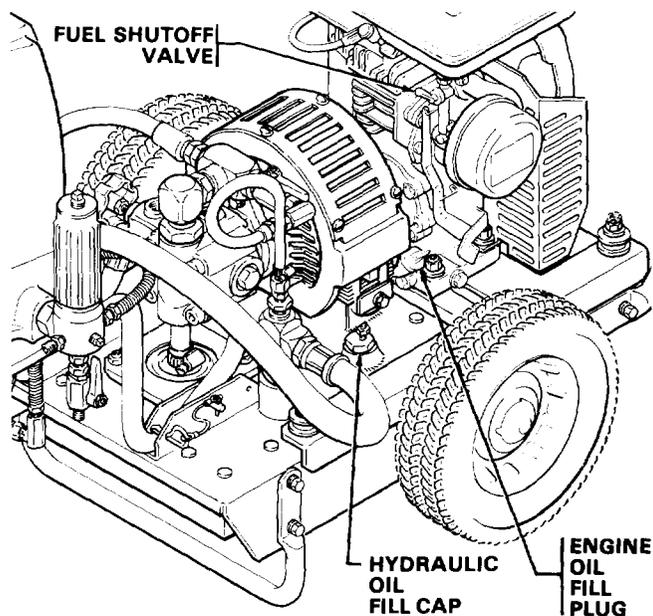

Fig 3
4. **Fill the Packing Nut/Wet Cup (141)** 1/4 full with Graco Throat Seal Liquid (TSL), supplied.
- a. Unscrew the oil fill cap. See Fig 3. The dipstick is attached to the cap. Wipe off the dipstick and set it in the hole, but do not thread it in place. The oil should be up to the full line on the dipstick.
- a. Unscrew the oil fill plug. See Fig 3 and 4. The dipstick is attached to the plug.
- a. Close the fuel shutoff valve. See Fig 3.